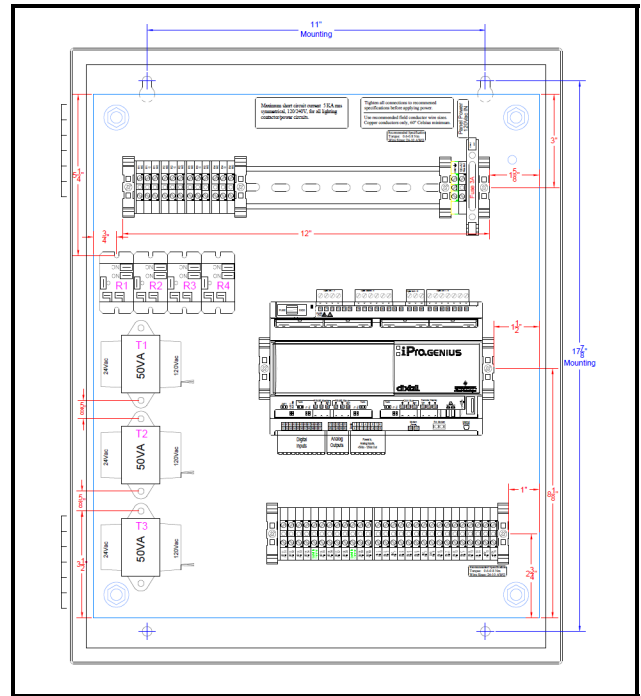

Figure 2-2 - 10 DIN E2E Panel Wiring
The panel has four (4) screw holes for easy mounting. The dimensions of the mounting holes center to center are shown in **Figure 2-2**. The panel mounting screws should be set in a high strength construction material such as a lumber stud, metal stud, or concrete/block/masonry with anchor.